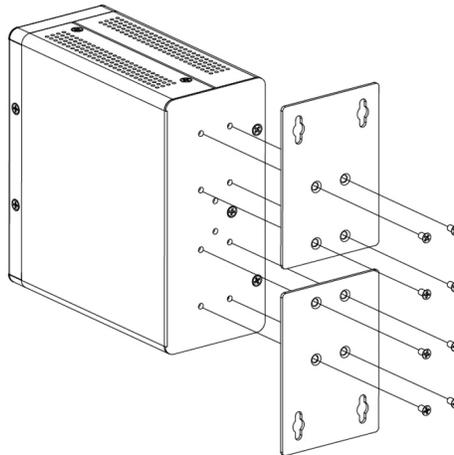

Figure 5. Attach Wall-mount Brackets to Switch
1. Attach the wall-mounting brackets to the rear panel of the switch chassis and drive the provided screws into the metal screw receptacles on the back of the switch as shown in Figure 5. Tighten the screws with a Phillips-head screwdriver to secure the brackets to the switch.